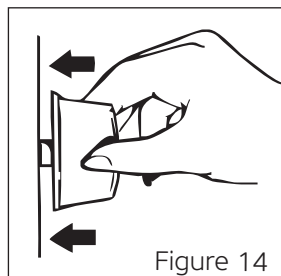
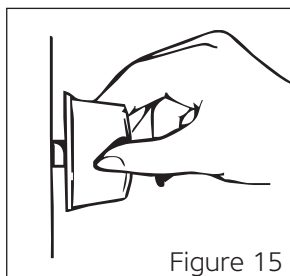
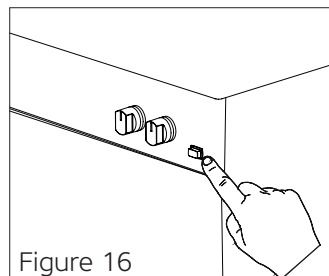

Figure 14
Figure 15
Figure 16
3. To use the cooker burner of your preference, first press the knob in the direction of the arrow and wait 5 seconds for air to escape from the pipes (See figure 14).
In Models With Manual Ignition; you can ignite the cooker burner of your preference with an igniter (Match, lighter) by rotating the knob (See figure 15).
*** In Models With (Auto) Ignition With A Knob;** you can ignite the cooker burner of your preference by pressing the knob in the direction of the arrow (See figure 14) and rotating the knob (See figure 15).
*** In Button Ignited Models;** first, press the button on the control panel (See figure 16). Then, by pressing your preferred cooker burner knob in the direction of the arrow, you can ignite the cooker burner (See figure 14).